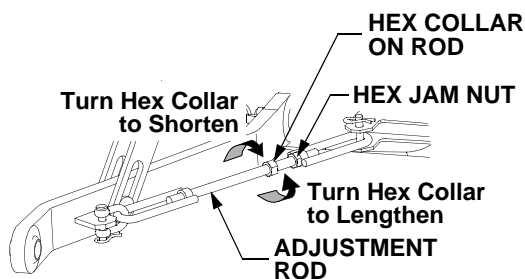

Figure 27
- The length of the hitch chains limit the side-to-side movement of the hitch lower links. To adjust the length of the hitch chains, loosen the jam nut and turn the hex collar on the adjustment rod as shown in Figure 27. Tighten the jam nut after adjusting.